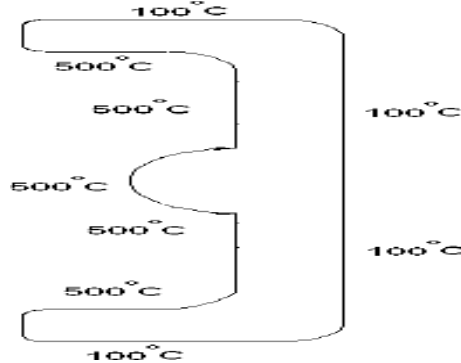

Figure 6
2. To determine the thermal deformations at various points of a shell component due to the temperature load applied it. It is shown below in Figure 6. (An)